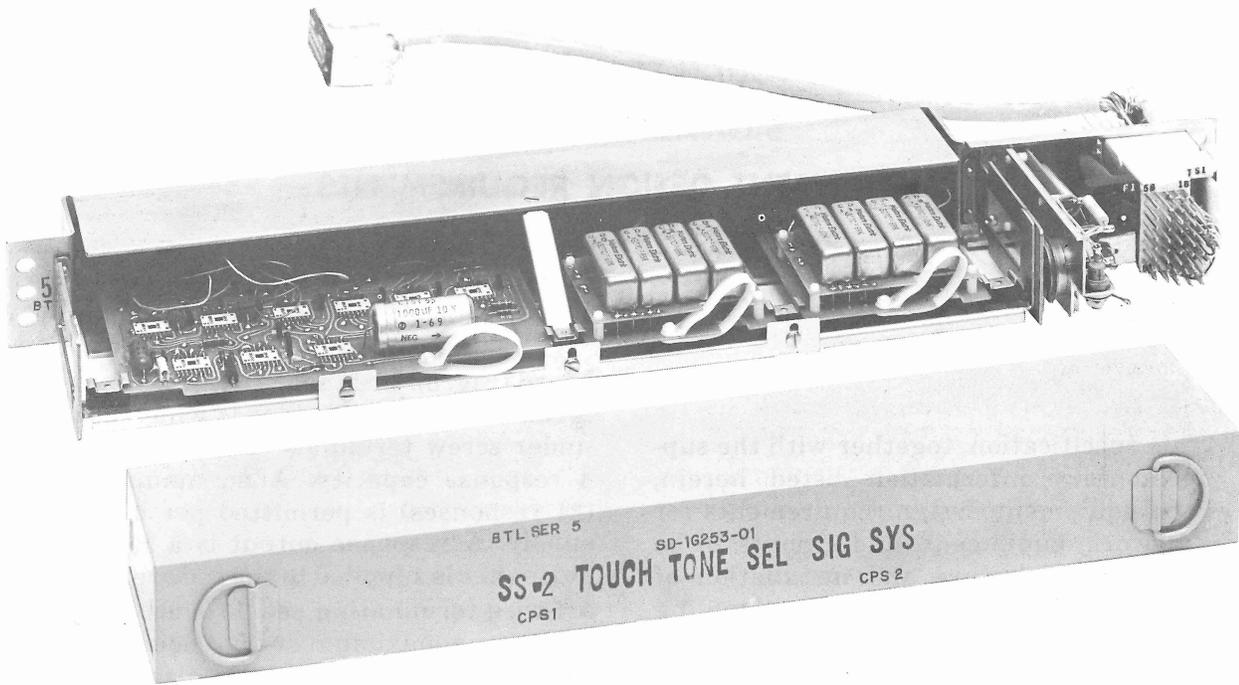

Fig. 1 — Basic Location Panel
1.03 The signaling equipment consists of two 2- by 23-inch panels, one of which contains common logic, a power supply, and the capacity to recognize up to 8 responses, (Fig. 1). The second panel has the capacity of adding up to 16 code responses.
List 1 – Framework, assembly, equipment, and wiring for one basic panel per SD-1G253-01, App Fig. 1 and 2 (includes one J1G025AA, L1 power supply).
List 1 – Framework, assembly, equipment, and wiring for one power supply per SD-1G253-01, App Fig. 1 (includes one ED-1G179-30, G1 printed wiring circuit pack, voltage regulator).